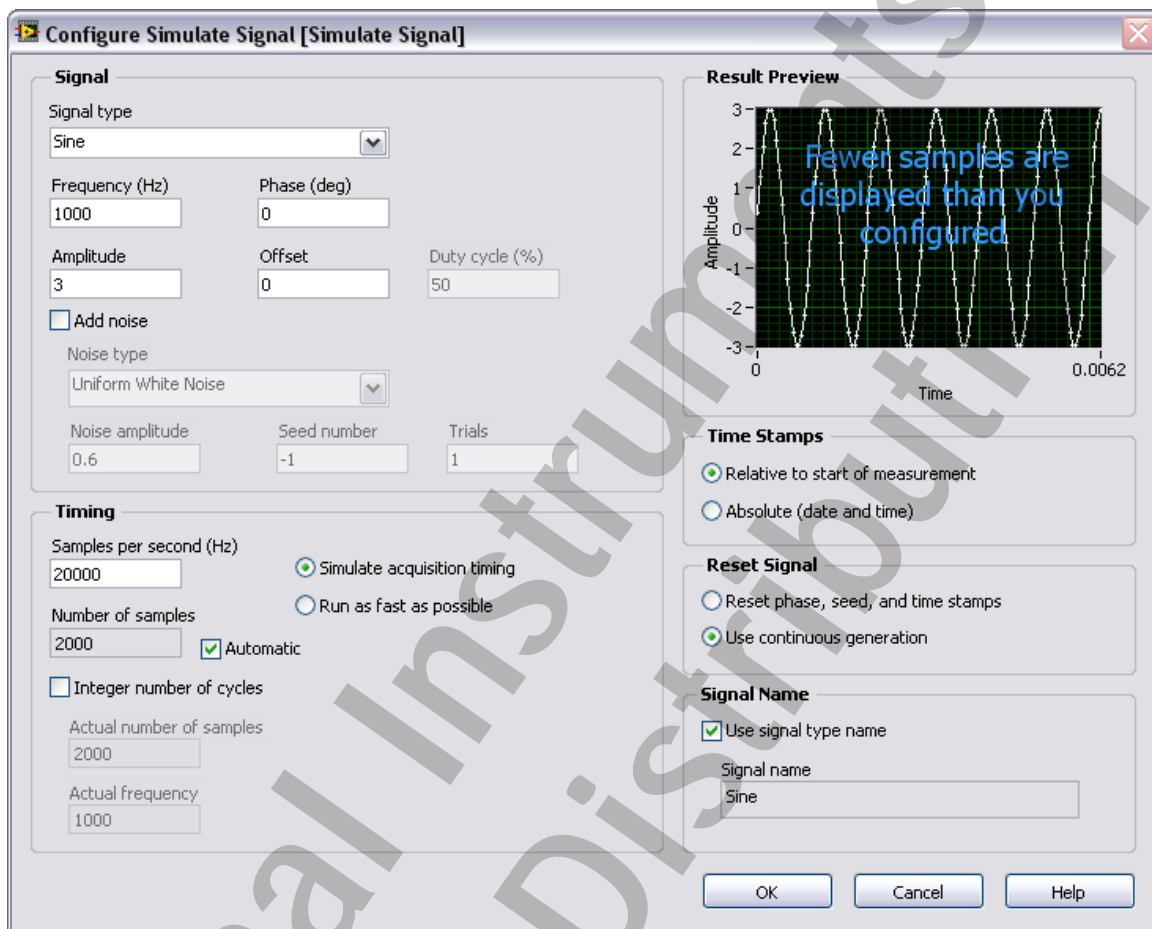

Figure A-2. Configure Simulate Signal Dialog
- ☐ **Simulate Signal Express VI**—This Express VI creates an output signal of a specified type. In the **Configure Simulate Signals** dialog box that appears, select the settings shown in Figure A-2.